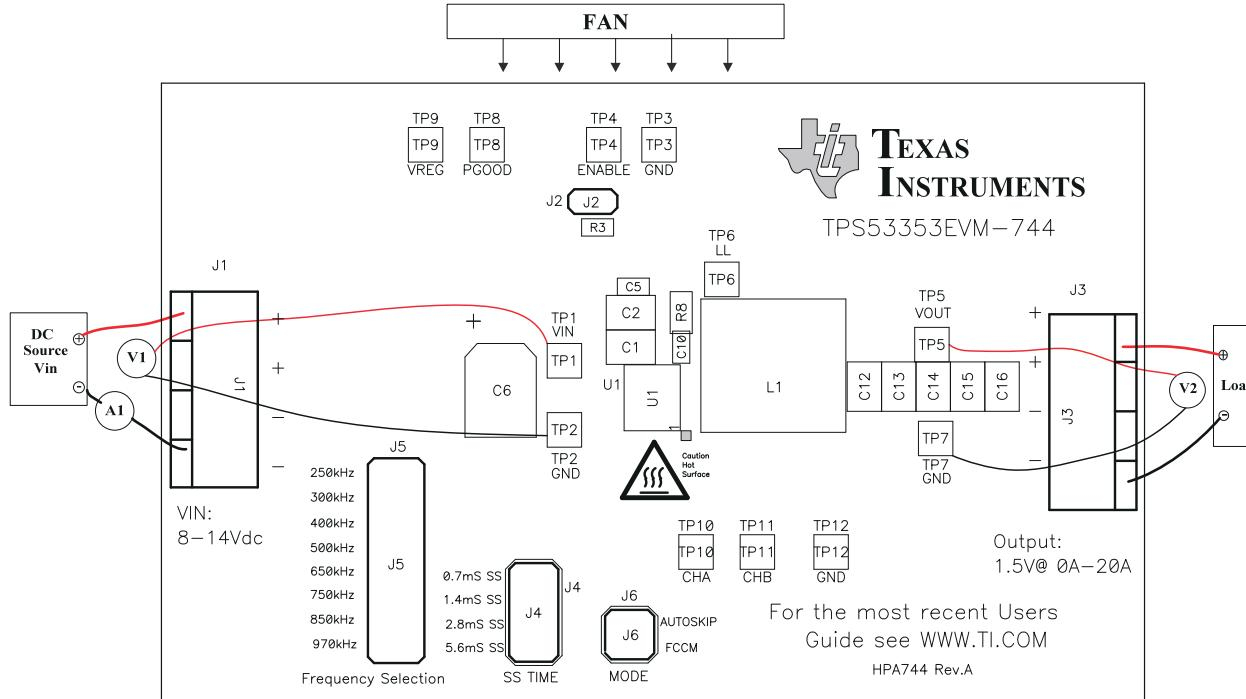

Figure 4-2. TPS53353EVM-744 Recommended Test Setup
**Voltage Source:** The input voltage source  $V_{IN}$  must be a 0-V to 14-V variable DC source capable of supplying 10 ADC. Connect  $V_{IN}$  to J1 as shown in Figure 4-2.
Figure 4-2 is the recommended test setup to evaluate the TPS53353EVM-744. Working at an ESD workstation, make sure that any wrist straps, bootstraps or mats are connected referencing the user to earth ground before power is applied to the EVM.
1. Before connecting the DC input source  $V_{IN}$ , it is advisable to limit the source current from  $V_{IN}$  to 10-A maximum. Ensure that  $V_{IN}$  is initially set to 0 V and connected as shown in Figure 4-2.
Place a fan as shown in Figure 4-2, and turn it on, ensuring that air is flowing across the EVM.
1. Set up the EVM as described in Section 4 and Figure 4-2.
1. Set up EVM as described in Section 4 and Figure 4-2.